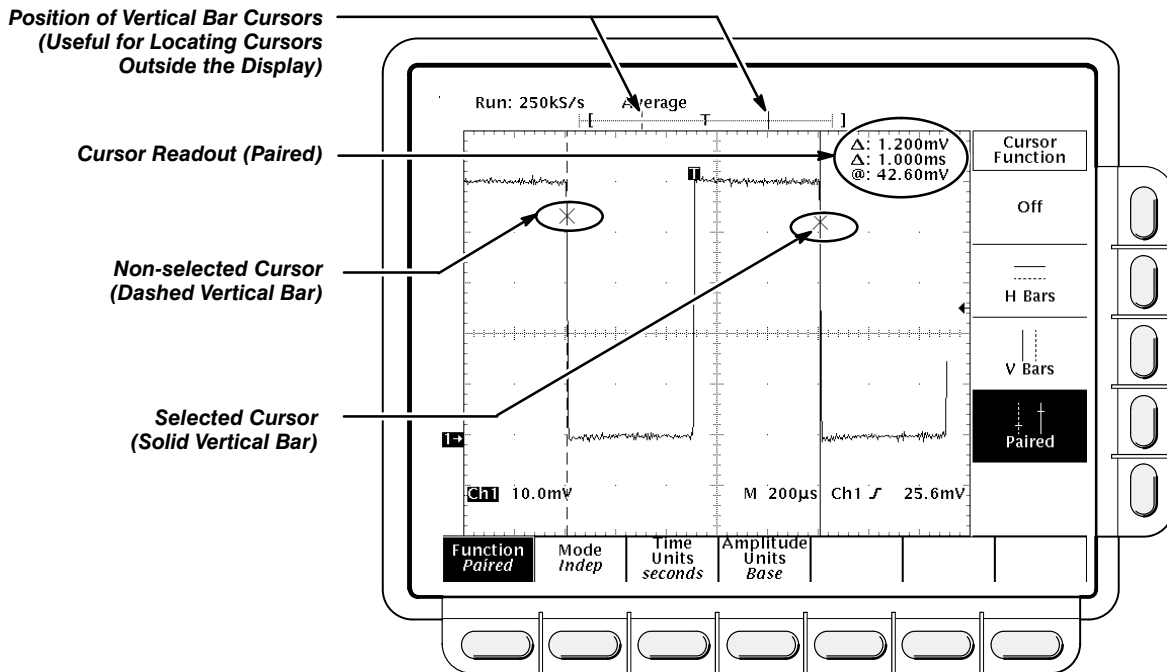

Figure 3-11: Paired Cursor Menu and Readouts
- **Paired:** the value after one  $\Delta$  shows the voltage difference between the two Xs; the other  $\Delta$  shows the time (or frequency) difference between the two long vertical bars. The value after @ shows the voltage at the X of the selected cursor relative to ground (see Figure 3-11).